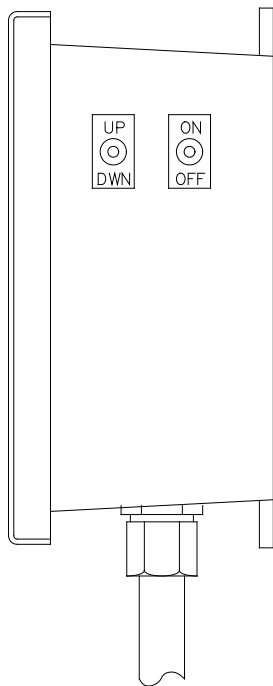
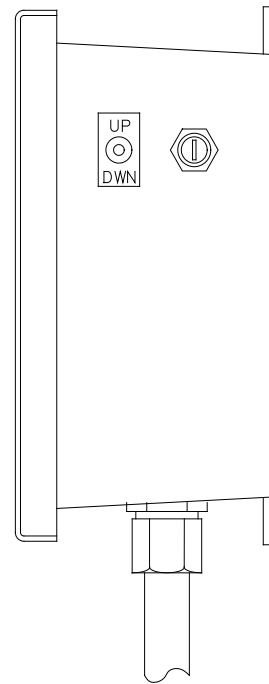

Figure 3-6a
Figure 3-6b
2. Figure 3-6a shows the manual control box which only has a power (on/off) switch and the control (up/down) switch. Figure 3-6b shows the remote control box which has a key switch and an up/down switch. When the key switch is in the central position, neither the remote fob nor the manual switch will work. When turned in one direction only the up/down switch will work and the remote fob will not, when turned in the other direction, only the remote fob will work, but not the up/down switch.